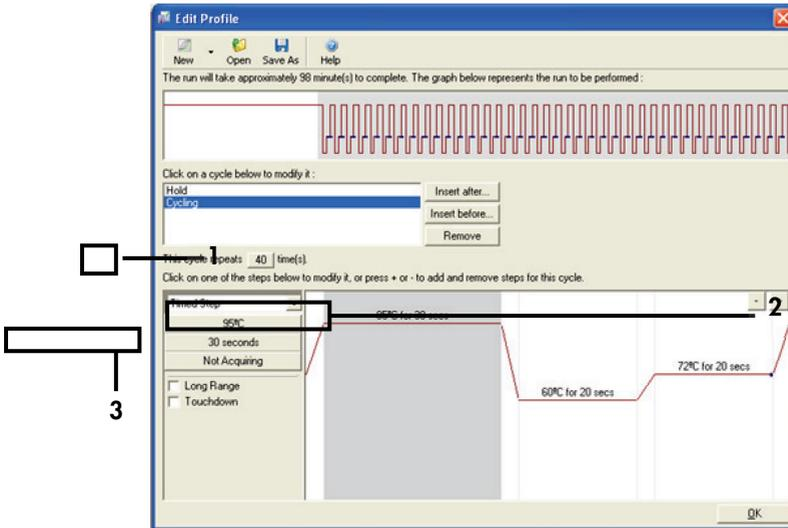

Figure 25. Cycling step at 95°C. 1 = "Cycle repeats" box; 2 = Step one: temperature setting; 3 = Step one: time setting.
8. Set the number of cycle repeats to **40**. Select the first step and set to **95°C for 30 seconds** (Figure 25).